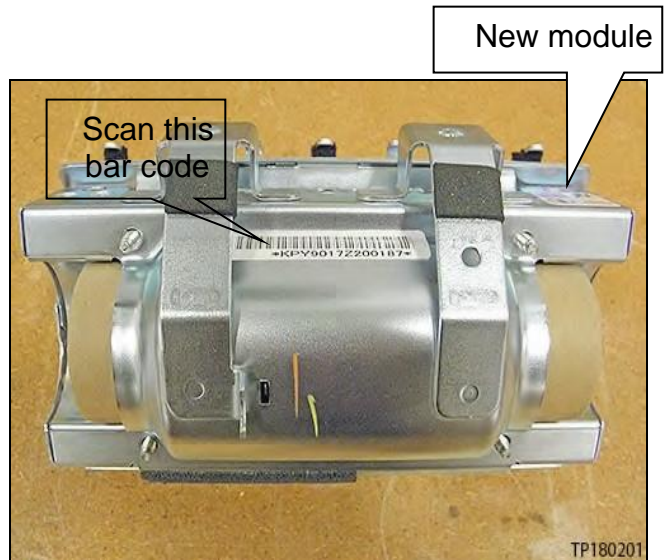

Figure 9
11. Use the quick scan tool to scan the bar code (serial number) on the new module (see Figures 9 and 10). □ The serial number will automatically populate (see Figure 8).